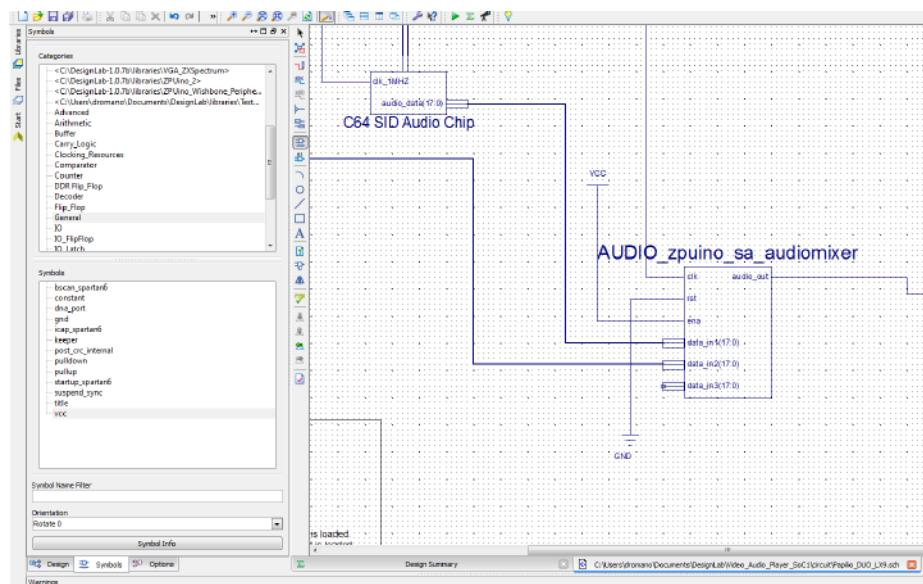

Figure 6-22 Connect audiomixer control pins
5. Lastly, just add a GND and a VCC symbol from the General category and connect the rst pin of the audiomixer to GND and the ena pin to VCC (Figure 6-22).